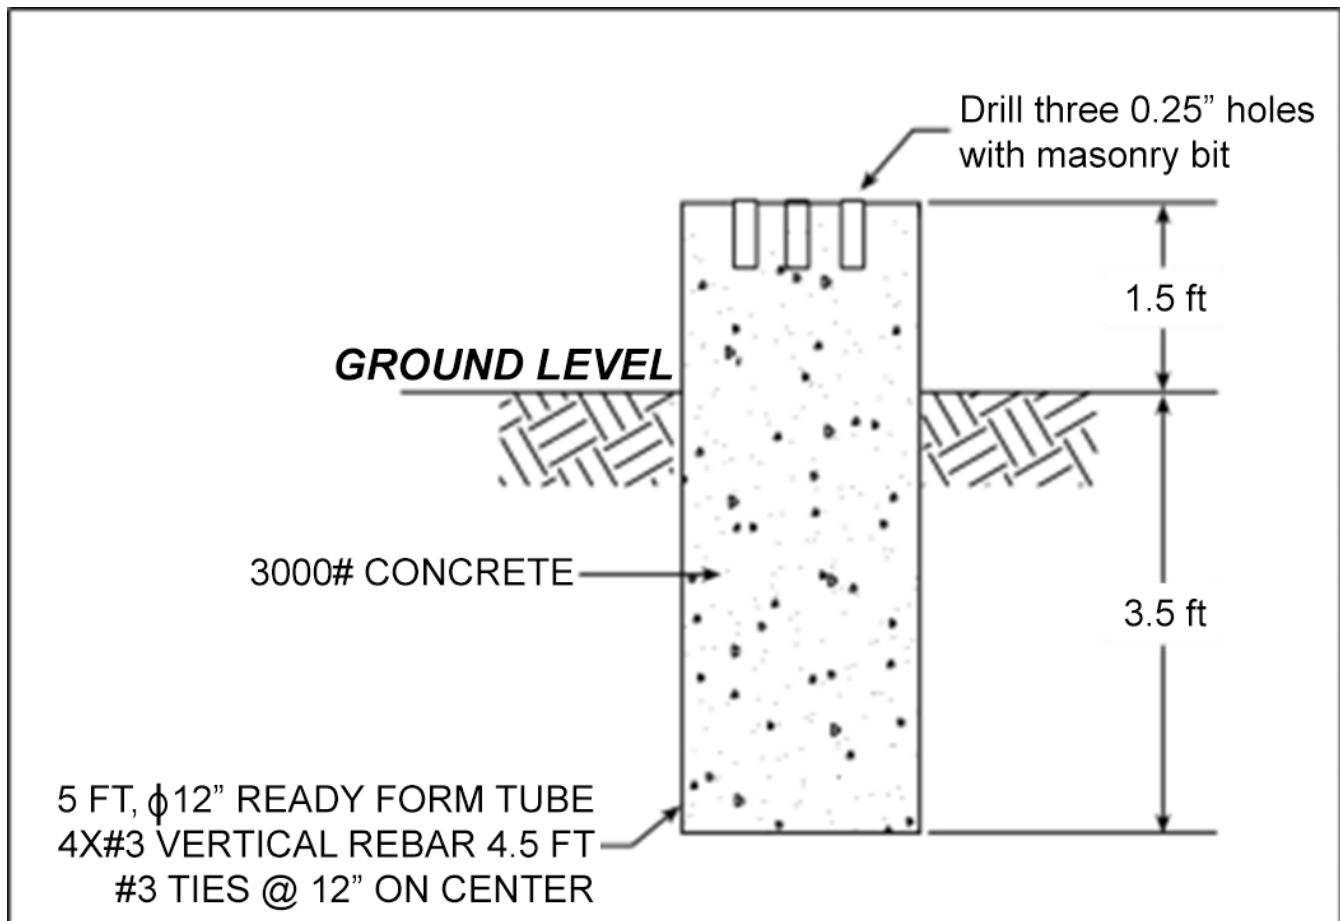

Figure 1. Concrete Mounting Pad
1. Pour a concrete pad as shown in Figure 1 Alternatively, a 2 ft by 2 ft level concrete foundation about 4" deep may be used.